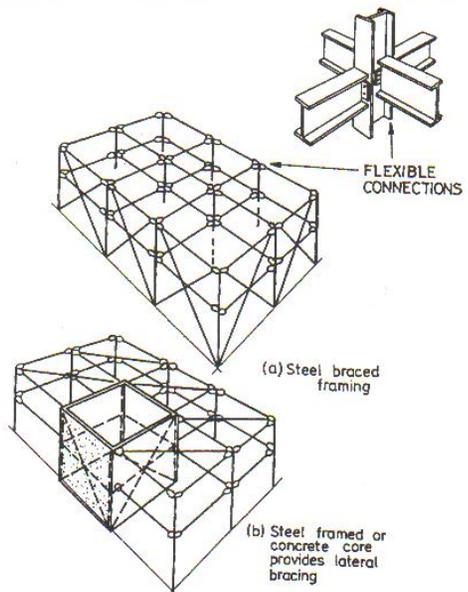

Fig 3.5 Two-way braced framework
- Two-way braced framework (AISC Fig. 3.5)